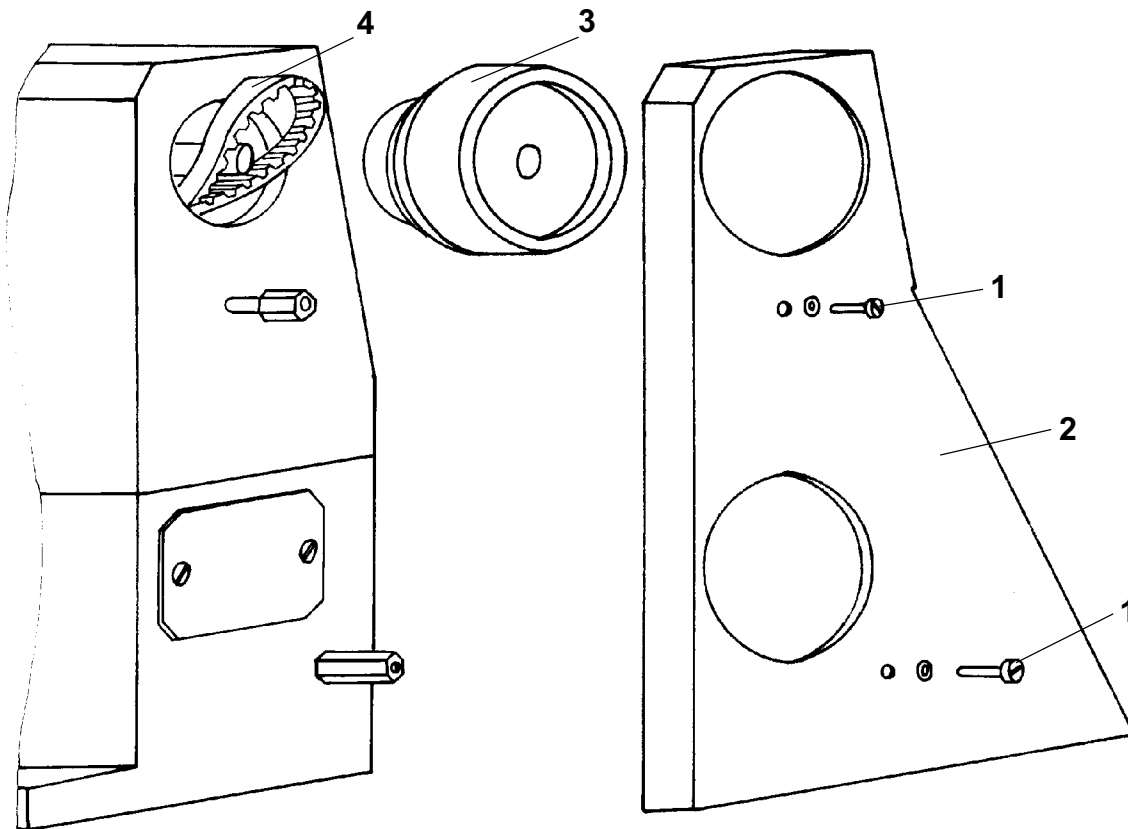

Fig. 11
12. To remove and to mount the drive belt (Fig. 11)